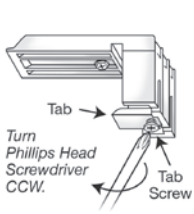

Figure 1
1. Make sure tab screw is loose, and tab is hanging freely (Fig. 1).